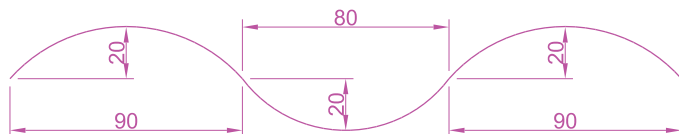

Fig. 14.40 First example – 3D Surface – polyline to be extruded
1. In the **ViewCube/Top** view, on a layer colour **Magenta**, construct the polyline shown in Fig. 14.40.